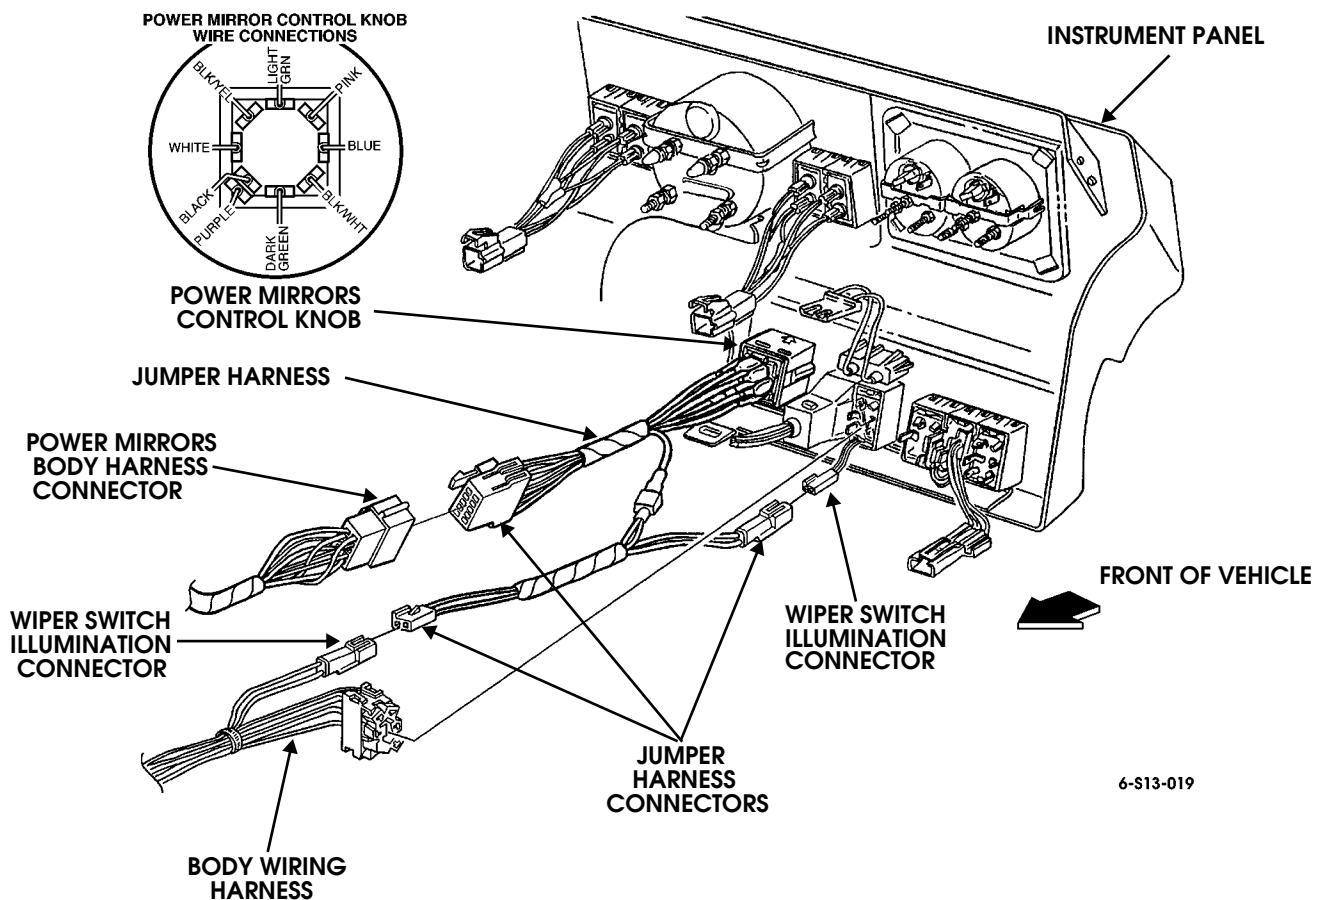

Figure 13-76: Power Mirrors Switch Jumper Harness
2. Disconnect jumper harness connector from connector on power mirrors body harness connector (Figure 13-76).
1. Feed jumper harness through square hole in instrument panel until control knob on end of jumper harness snaps into place (Figure 13-76).